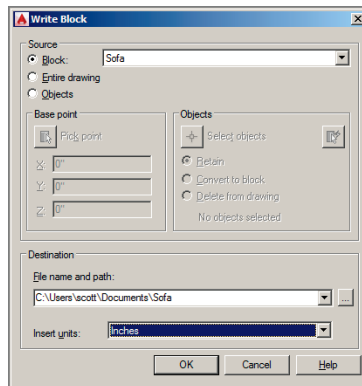

FIGURE 9.1 Writing a block to a file
1. Type **W** (for Write block), and press Enter. Select the Block radio button in the Source area of the Write Block dialog box. Select `Sofa` from the Block drop-down. Select Inches (or Centimeters for metric) from the Insert Units drop-down in the Destination area (see Figure 9.1). Click OK, and the geometry within the `Sofa` block definition is written to `Sofa.dwg`.